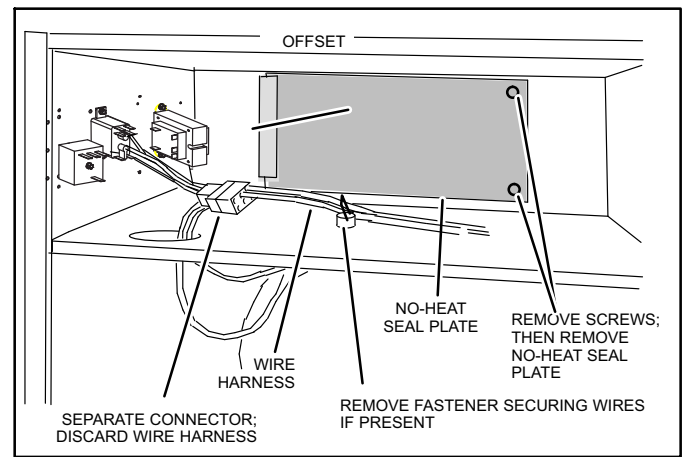

Figure 6. Prepare to Install Heat Element
3. Disconnect any existing field supply wires and pull them out of the air handler. Disconnect and remove wiring harness and fastener (see figure 6). If not removed, these items will prevent the heat section's base from resting properly in the compartment.
4. Remove the no-heat seal plate in the air handler frame. See figure 6.